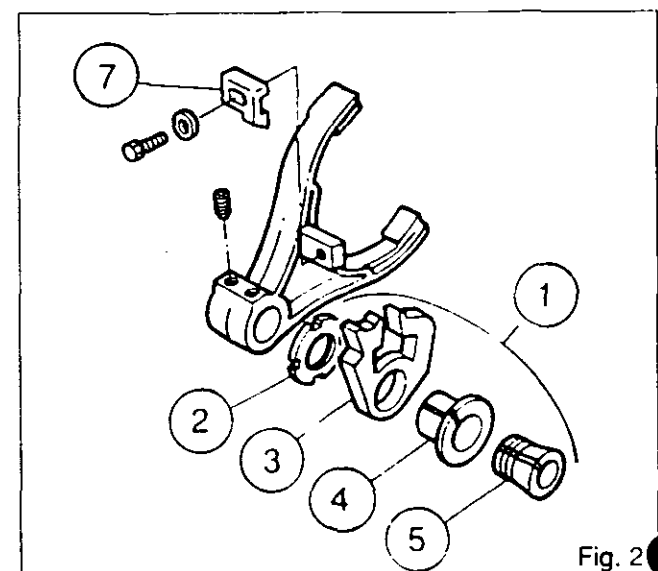

Fig. 2
7. Remove the slider (7) (Fig. 2).
10. Remove the latch assembly (1) (Fig. 2)
11. Remove and clean (Fig.2) :
- the castellated nut (2)
- the latch (3)
- the tapered bearing (4)
- the cone (5)
21. Remove the slider (7) (Fig.2).